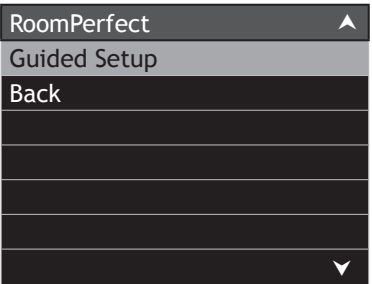
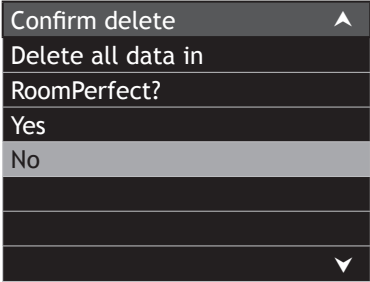
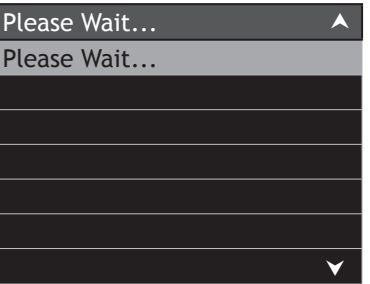

Figure 22
Figure 24
Figure 25
- please wait” will appear. Refer to figures 22 and 23. After a brief moment, Figure 24 will appear, select yes and figure 25 appears briefly.